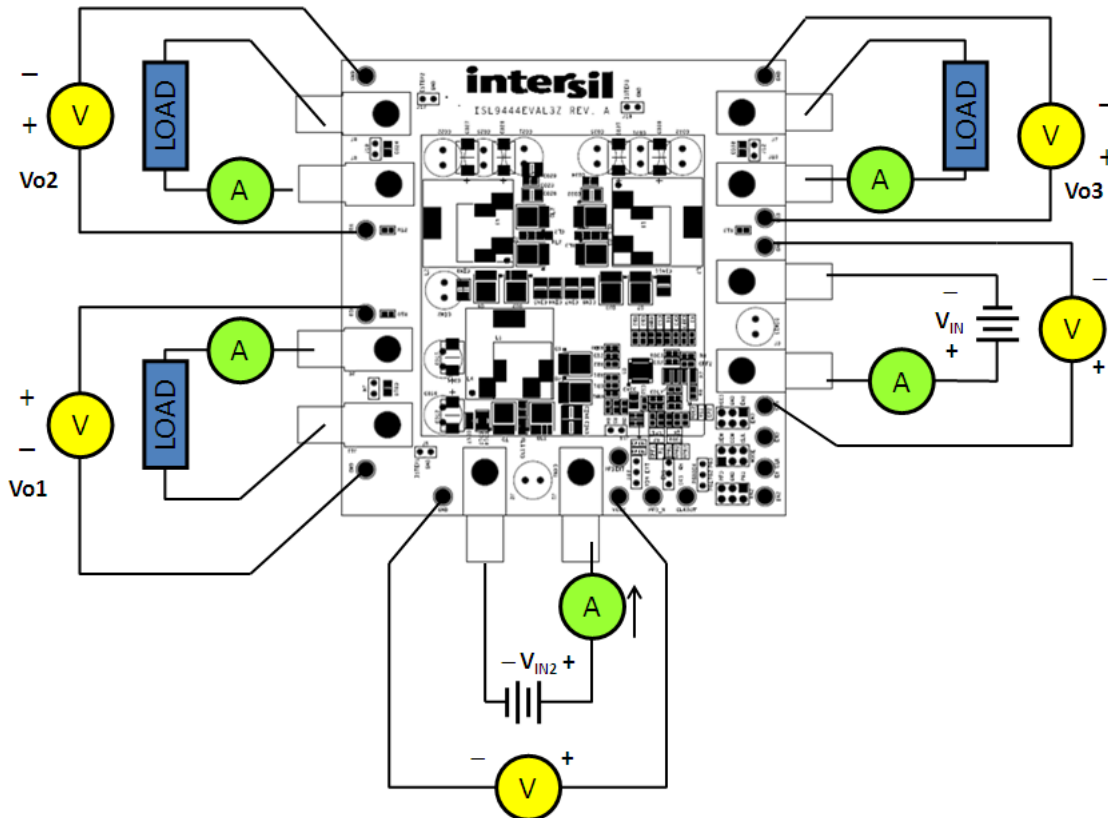

FIGURE 2. ISL9444EVAL3Z TEST SET-UP
1. Ensure that the evaluation board is correctly connected to the power supply and the electronic load prior to applying any power. Please refer to Figure 2 for proper set-up.